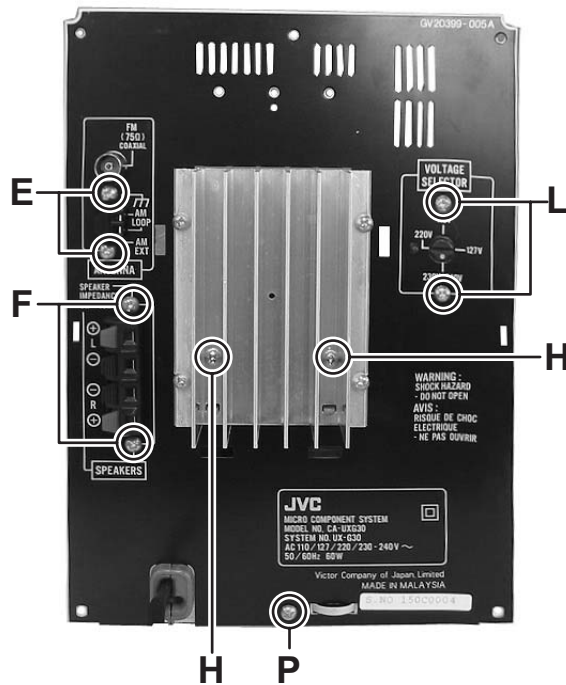

Fig.7
- (2) Remove the two screws **E** attaching the tuner pack. (See Fig.7)
- (1) Remove the two screws **F** attaching the micon board. (See Fig.7)
(See Fig.7, 8)
- (1) Remove the two screws **H** attaching the power IC. (See Fig.7)
### 3.1.8 Removing the trans board (See Fig.7, 10, 11)
- (1) Remove the two screws **L** attaching the trans board. (See Fig.7)
(See Fig.7, 12)
- (1) Remove the one screw **P** attaching the rear panel. (See Fig.7)